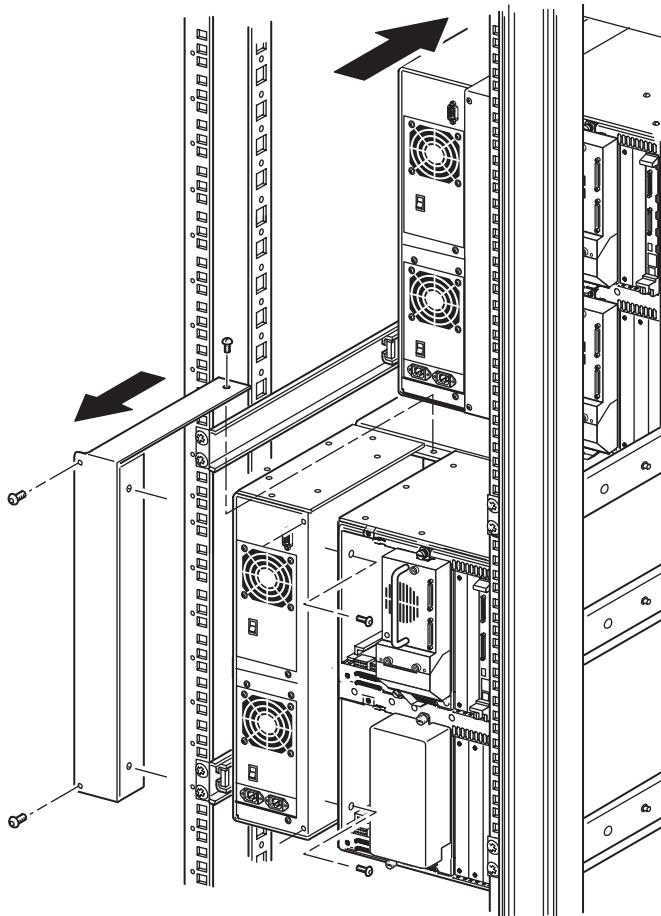

Figure 12 Removing a PTM cover plate (10U models)
NOTE: Each library needs to be pulled out sequentially from the front of the rack enclosure to gain access to the top PTM cover plate screw on a lower library. See Figure 12 on page 23 for screw locations.
- c.** Using a #2 Phillips screwdriver, remove the screws that secure the PTM cover plate to the rear of each library chassis (see Figure 12 on page 23).